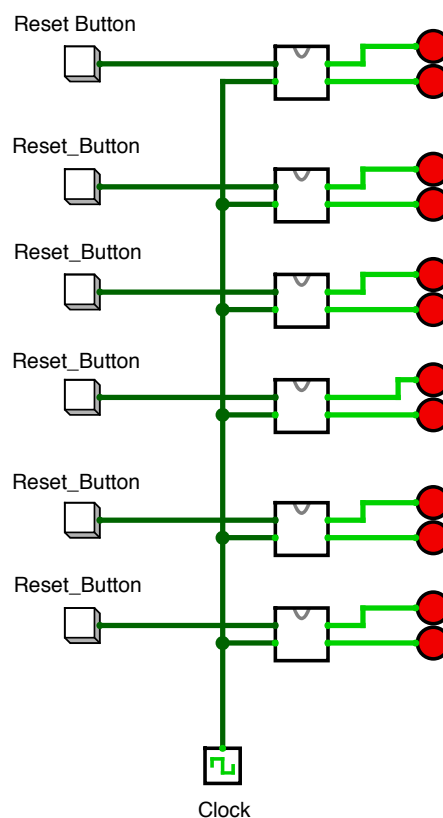

Figure 3: Six TimerAlerts
6. Add 12 LEDs (under “Input/Output”). Connect them as shown in Fig. 3.